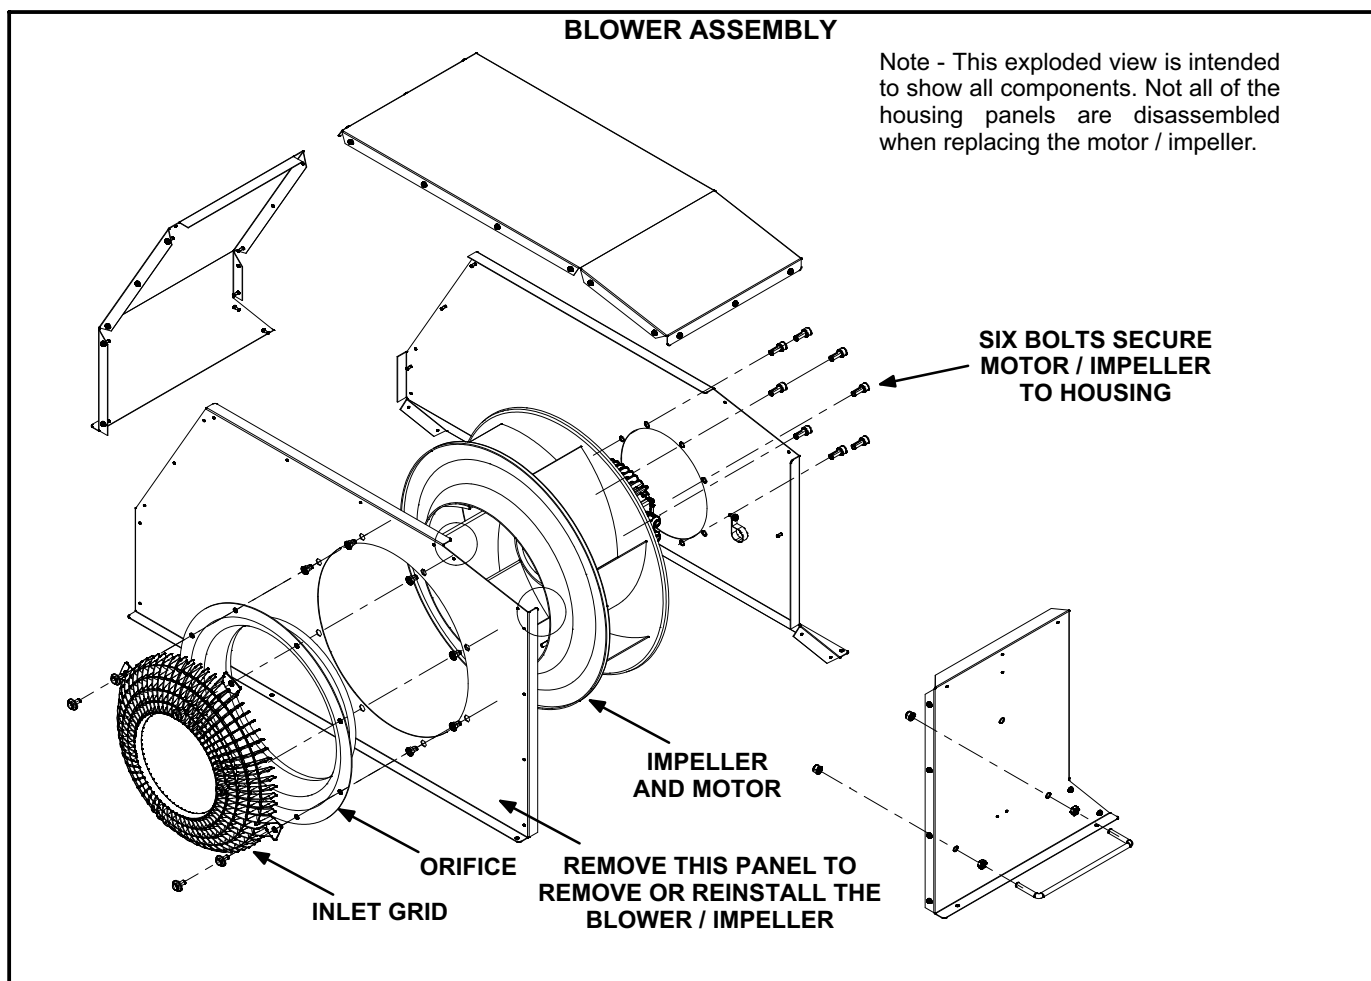

FIGURE 5
- 11- Remove the inlet grill, orifice and the side of the housing shown in figure 5.